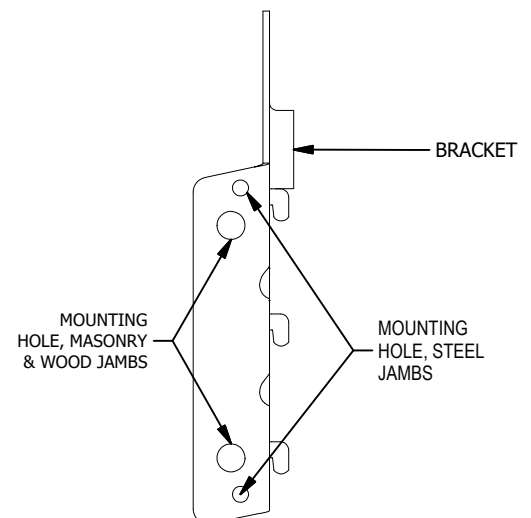

FIGURE 9: FASTENER PLACEMENT
- ▶ The appropriate fastener must be installed at each hole location in brackets and guides. *See figure 9*.